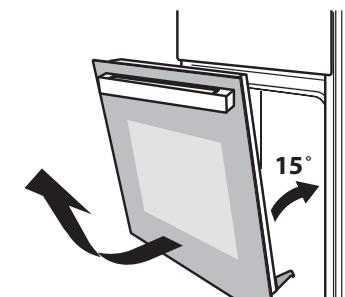

Fig. 2
2. Close the door to an angle of approximately 15°, lift and slowly pull the door out of the oven (Fig. 2).